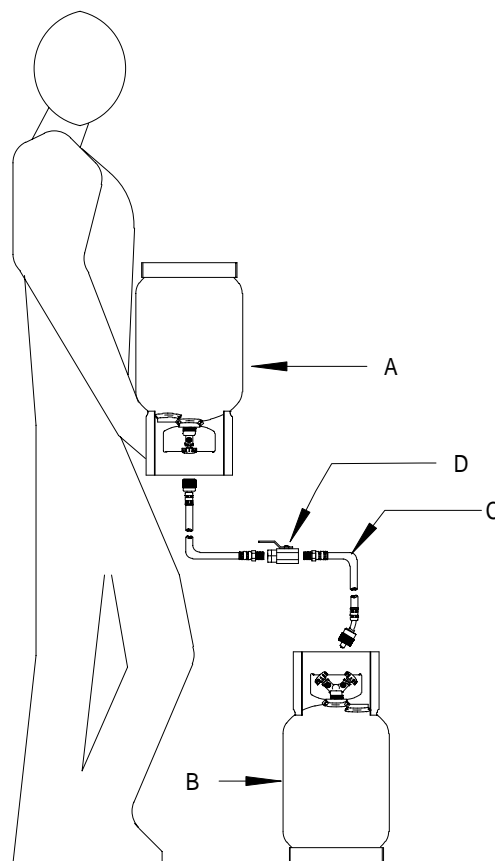

FIGURE 6 CHARGING TANK
1. Be sure Recovery Tank valves (B) are closed. Refer to FIGURE 6.
3. Disconnect and **Re-Oil** both the seals on Yellow hose (C). Connect the long side of the Yellow Hose to the Virgin Tank (A).
4. Connect the short side of the Yellow Hose to the Red Valve on the Recovery Tank (B).
6. Raise the Virgin Tank to a higher level than the Recovery Tank. Invert the Virgin Tank (A) and open valve.
7. Open Hand Valve (D) on the Yellow Hose to allow the refrigerant to flow. Gravity and vacuum will transfer the liquid refrigerant to the Recovery Tank faster than reclaiming it.